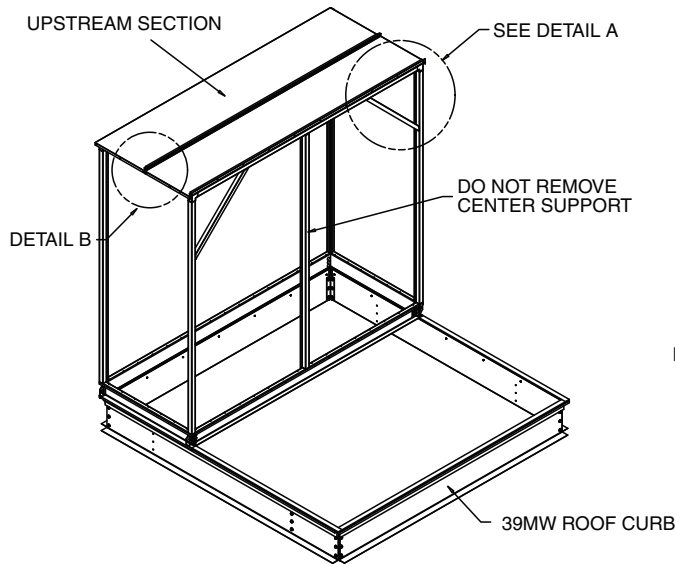

Fig. 32 — 39MW Split Assembly
16. For outdoor units, assemble all roof brackets provided and caulk roof corners as shown in Fig. 32, Detail B. Also caulk (using black or grey polyurethane adhesive sealant such as Black Sikaflex[®] 221 or Silaprene[®] SolidSeal) over the field section joint seals from top to bottom on the outside of each field joint to ensure seal integrity.